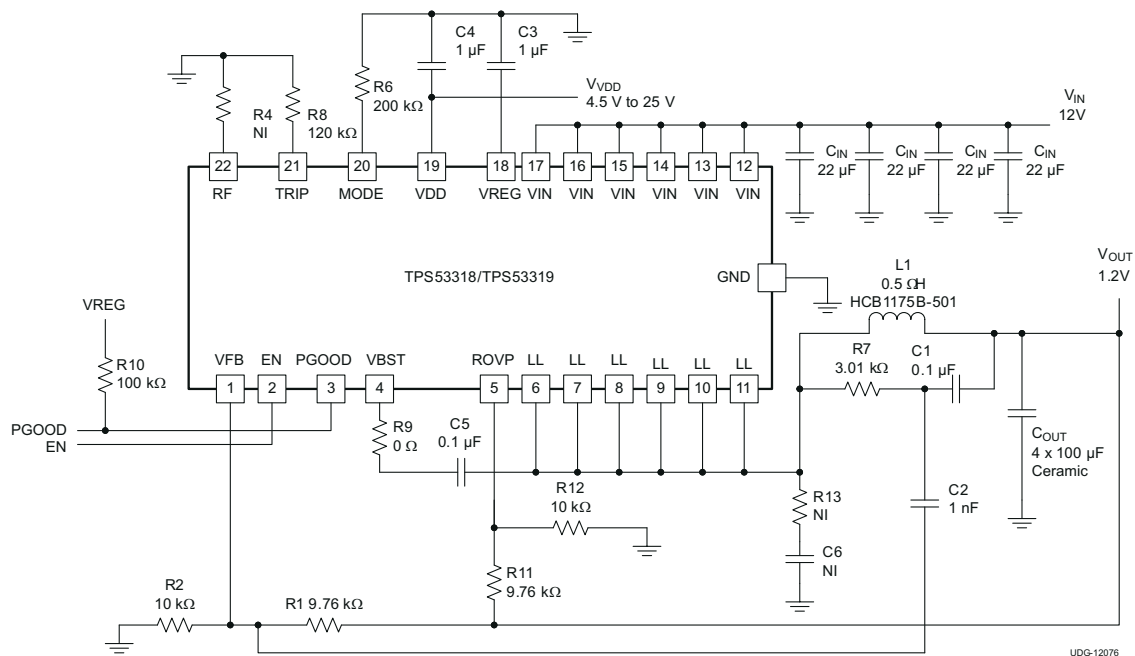

Figure 9-12. Typical Application Circuit, Redundent OVP Enabled
The redundant overvoltage level is programmed according to the output voltage setting, it is controlled by resistors R11 and R12 as shown in Figure 9-12. Connect resistor R11 between the ROVP pin and the output, and connect resistor R12 between the ROVP pin and GND. This design recommends that the value of resistor R11 match the value of resistor R1 (or slightly higher), and that the value of resistor R2 match the value of resistor R12.
- Connect the ripple injection V_{OUT} signal (V_{OUT} side of the C1 capacitor in Figure 9-12) from the terminal of ceramic output capacitor. The AC coupling capacitor (C2 in Figure 9-12) should be placed near the device, and R7 and C1 can be placed near the power stage.